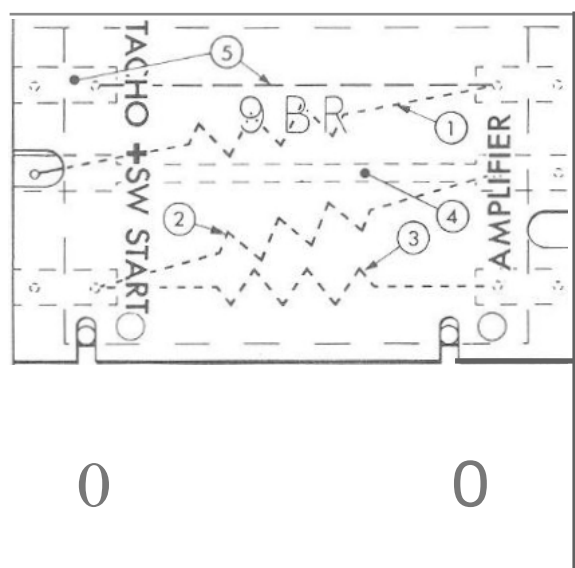

Fig. 4 Internal connections of ballast resistance unit
A third resistor in the ballast resistance unit (item 1, Fig. 4) is also connected by external wiring to the amplifier unit, this resistor being associated with the function of one of the transistors.
bracket (see Fig. 4). If the ballast resistance unit develops a fault, it cannot be repaired and must therefore be renewed.
External wiring connects two resistors (items 2 & 3, Fig. 4) in series with the ignition coil primary winding,
| (v) Ballast resistance unit | Refer Fig. 4 |
If so, switch off the ignition and extend the test by checking the resistance of each of the resistors in the ballast resistance unit (use a good quality battery-operated ohmmeter and refer to Fig. 4). If necessary, renew the ballast resistance unit.
Ballast Resistance Unit: Check with the ohmmeter, the resistance of each of the resistors (refer Fig. 4).